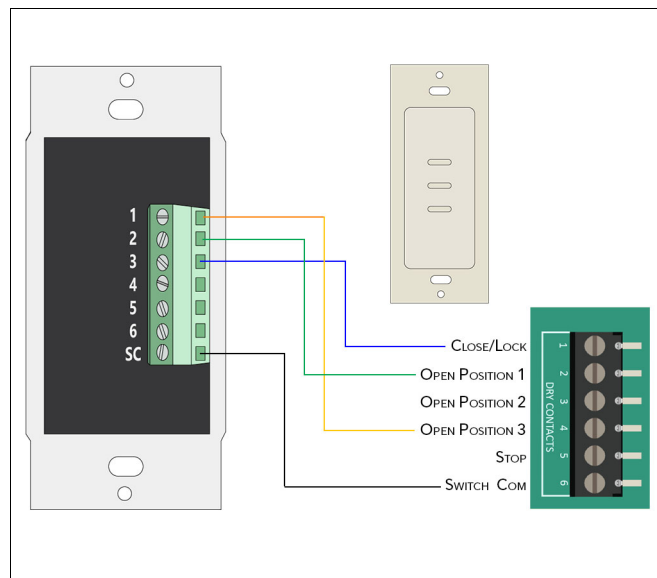

Figure 10
**2. 3 Button Switch Example:** This switch connects one of its 1, 2 or 3 terminals to its “SC” terminal when the associated button is pressed. This will result in a switch that will control the window to an open position when pressing the top button, a smaller opening when pressing the middle button or close and lock when pressing the bottom button. See Figure 10.